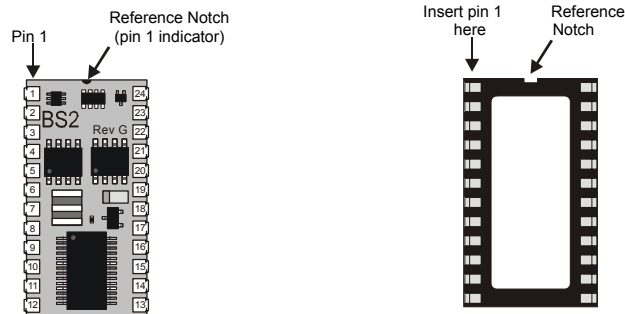
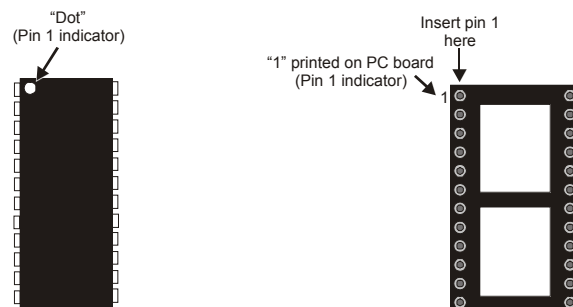

Figure 1.13: Pin 1 Indicators
Figure 1.14: Additional
All BS2 series modules have a half-circle indicator on the topside of the module (see Figure 1.13). This indicates that pin number one is the first pin counterclockwise from the notch. The socket that accepts this 24-pin module also
has a half-circle or notch on one end, indicating the correct orientation. See Figure 1.14 for other examples.
- 1) If the BASIC Stamp isn't already plugged into your development board, insert it into the socket. Refer to Figure 1.13 and Figure 1.14 on page 26 to make sure that you orient it correctly. For a complete listing of Parallax development boards for the various BASIC Stamp modules, go to www.parallax.com and look for Development Boards on the Products menu.